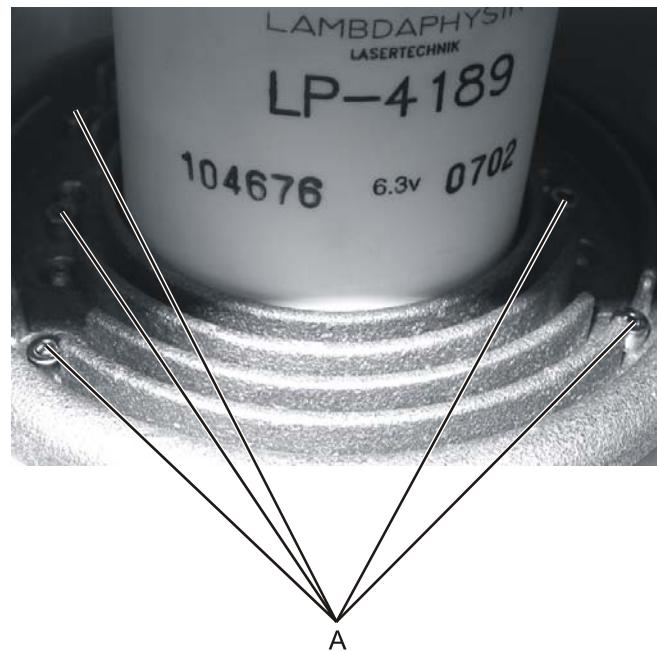

Figure 47: Thyratron base plate securing screws
7. Use the 3 mm allen key to unscrew the six raised screws securing the thyratron and heat sink assembly (see Figure 47, A).